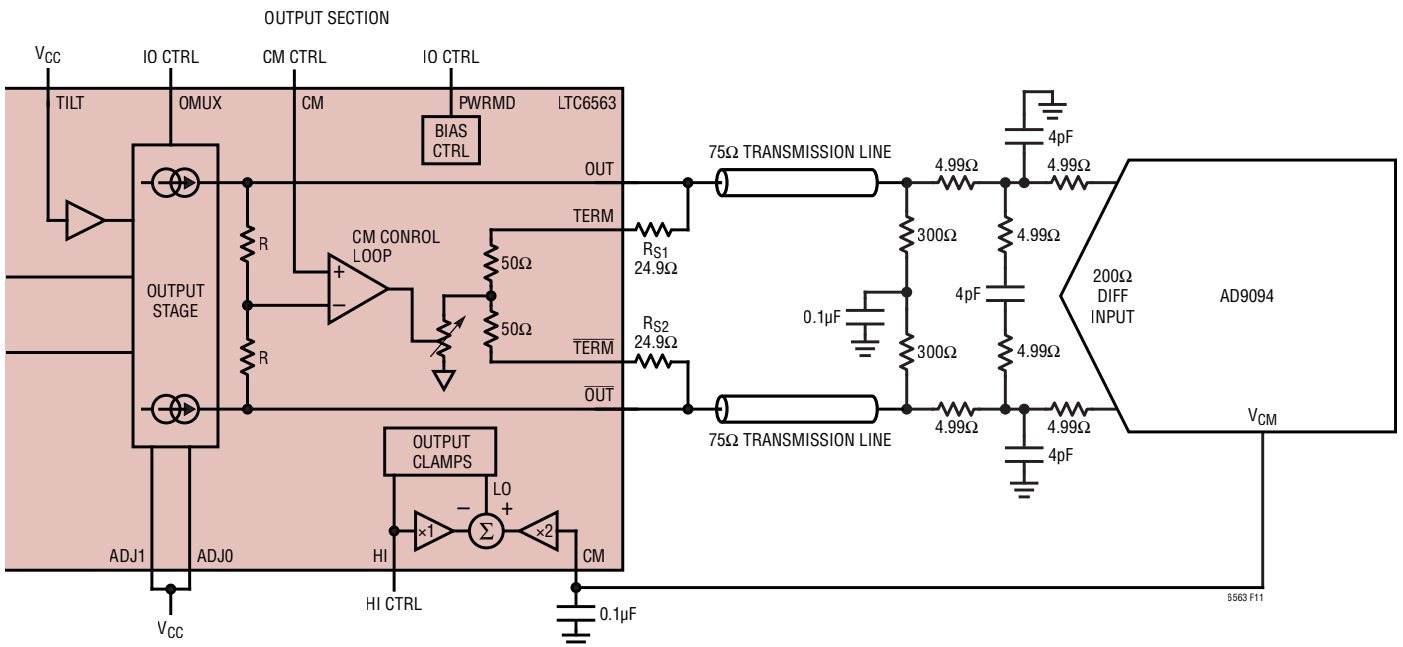
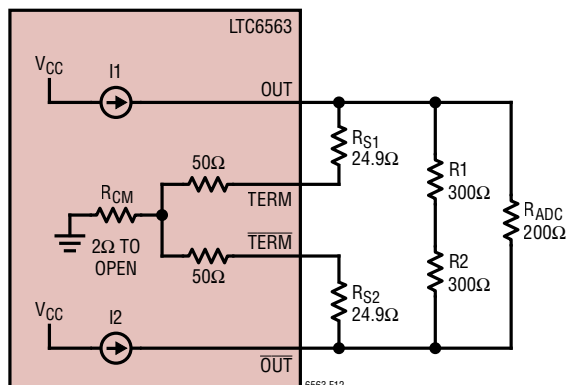

Figure 11. Increasing Diff Load Resistance and Matching to 75Ω
Figure 12. TIA 75Ω Matched Load Equivalent Circuit
Consider the configuration shown in Figure 11 schematic. The output impedance of the LTC6563 is raised to 75Ω by adding 24.9Ω resistors in series with the internal 50Ω TERM resistors. The TIA now presents an output impedance that matches the 75Ω transmission line as well as the net ADC-side SE impedance. The transmission line ADC-side impedance can be calculated by:
Let's now take a look at the output CM voltage that pertains to the schematic of Figure 11, simplified in Figure 12:
Table 6. CM Minimum Voltage and Other Operating Performance Values for Various ADJ Settings of Figure 11
Table 6 shows the computed minimum CM voltage, TIA gain (RT), and ADC FS diff voltage swing for various ADJ settings applied to the Figure 11 configuration.
Here is a sample calculation of the values in Table 6, related to the Figure 11 schematic, for ADJ 00 as an illustration:
In the Figure 11 schematic and tabulated results in Table 6, the ADJ 11 setting's Min CM voltage is too high to be usable. Thus, the technique of lowering CM voltage (Detailed Example 2) discussed earlier can be employed